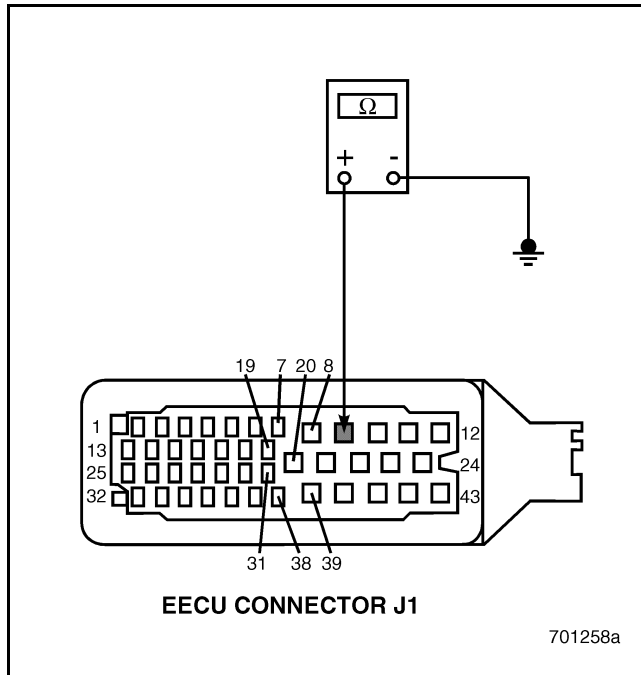

Figure 459
4. Check for continuity between EECU connector J1 pin 9 and a good ground (see Figure 459).